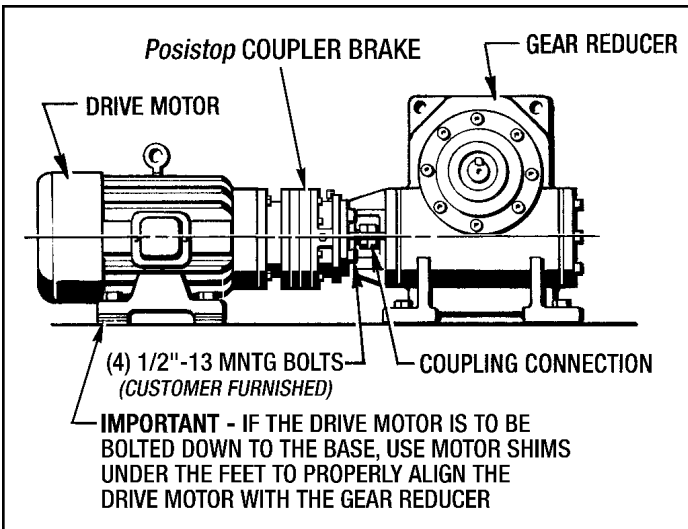

Figure 3.10 - Motor and Gear Reducer Alignment
(See Figure 3.10)
- Attach the Drive Motor and Brake Assembly to the Gear Box or Driven Machinery with the (4) 1/2"-13 Mounting Bolts (Customer Furnished). **Torque to 60 Lb. Ft.** Connect the coupling as per manufacturer's specifications.
- If the Drive Motor is to be bolted down to the base, use motor shims under the feet to properly align the drive motor with the gear reducer as shown in Figure 3.10. **This is very important so the Coupler Brake will not be pulled down or pushed up.**